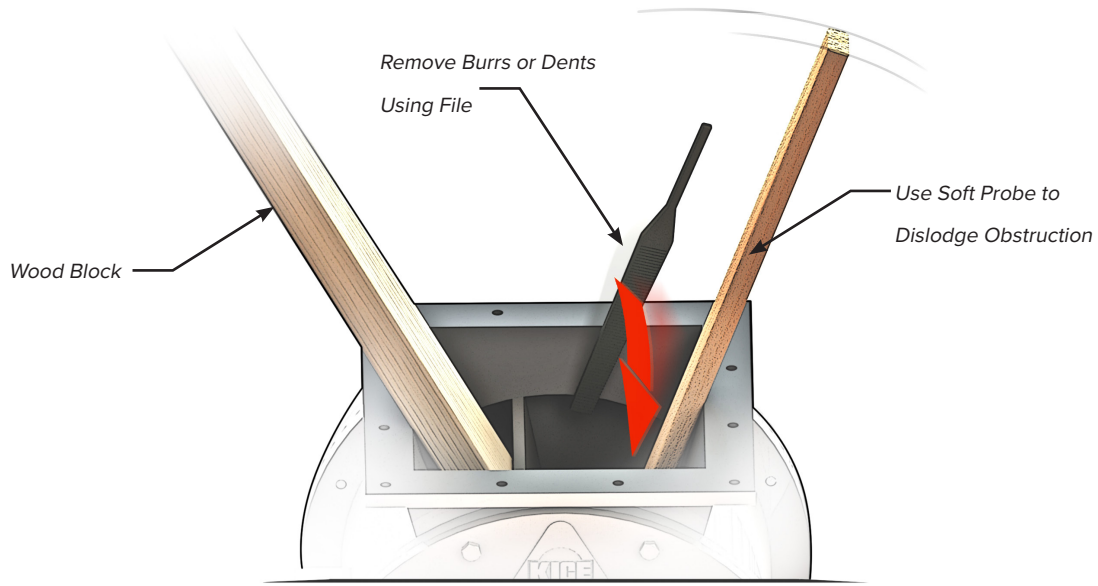

FIGURE 6
3. Place blocks in the airlock to prevent the rotor from turning unexpectedly (Figure 6).
4. Place blocks in the airlock to prevent the rotor from turning in either direction (figure 6).